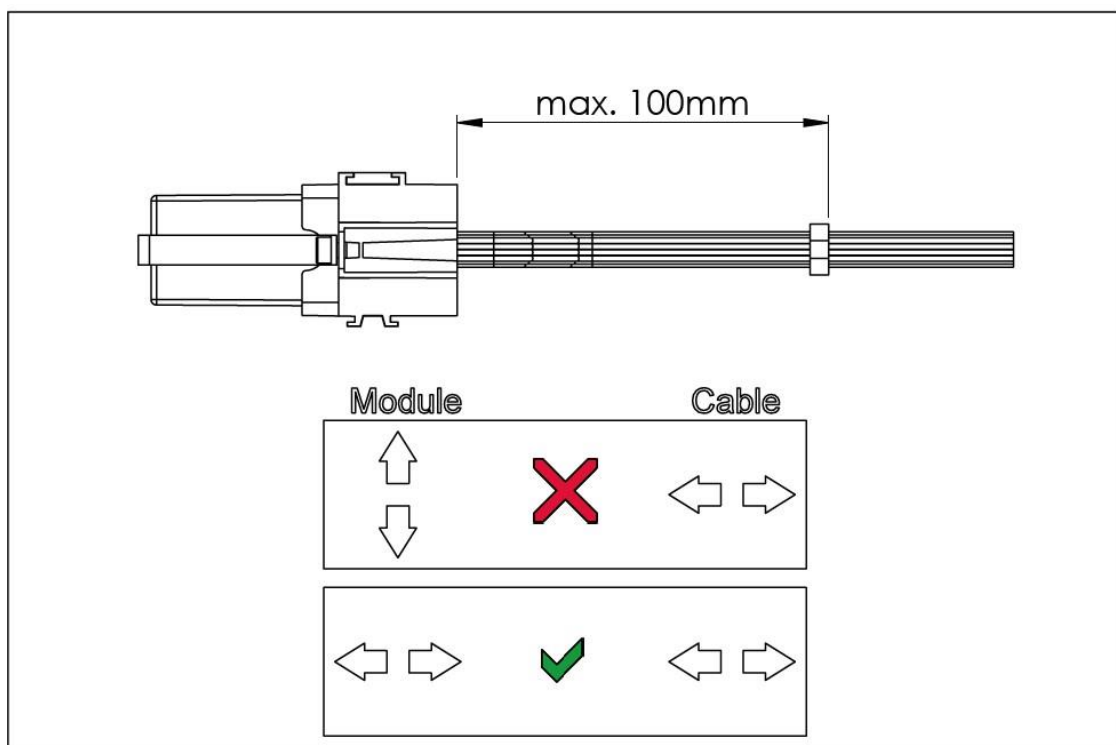

Figure 1: Strain relief of the cable harness (example). 100 mm (max.) are mandatory, pulse relay may vary.
- The cable routing must be selected in such a way that the cable harness only moves identically to the direction of movement of the controller/plug. (Attachment controller/cable/strain relief on the same underground). A strain relief is necessary (see Figure 1).